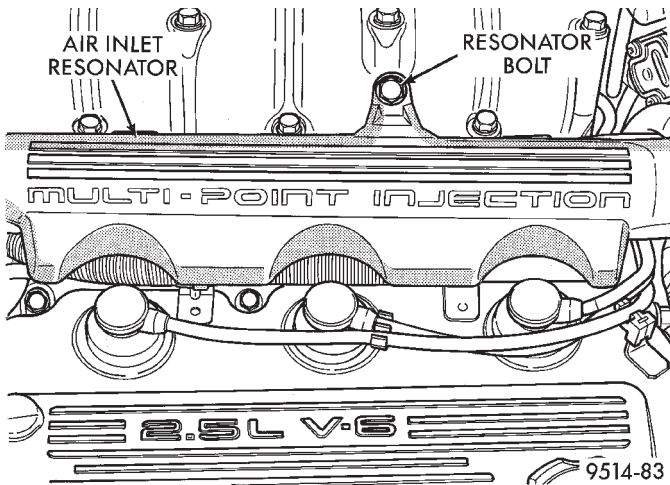

Fig. 84 Air Inlet Resonator
- (1) Remove bolt holding resonator to intake manifold (Fig. 84).